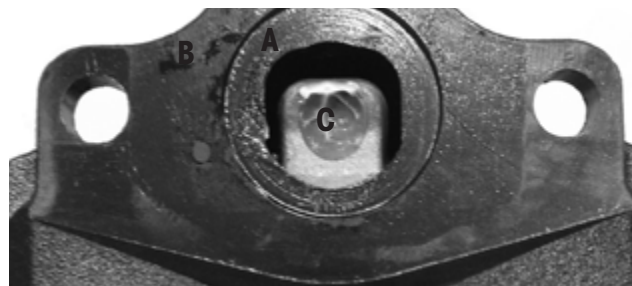

Figure 43: Caliper brake chamber mounting surfaces
2. **Clean** the brake caliper boot surface (Figure 43, A) and flange area (Figure 43, B).